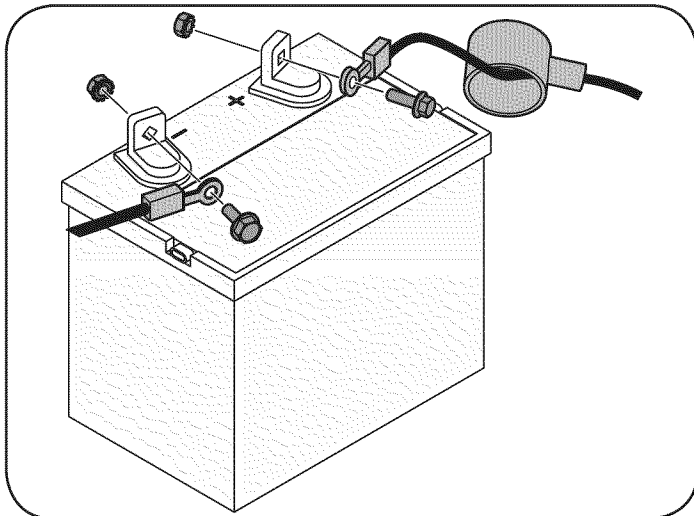

Figure 3
1. Remove the plastic cover, if present, from the positive (+) battery terminal and attach the red cable to the positive battery terminal (+) with the bolt and hex nut. See Figure 3.
2. Remove the plastic cover, if present, from the negative (-) battery terminal and attach the black cable to the negative battery terminal (-) with the bolt and hex nut. See Figure 3.